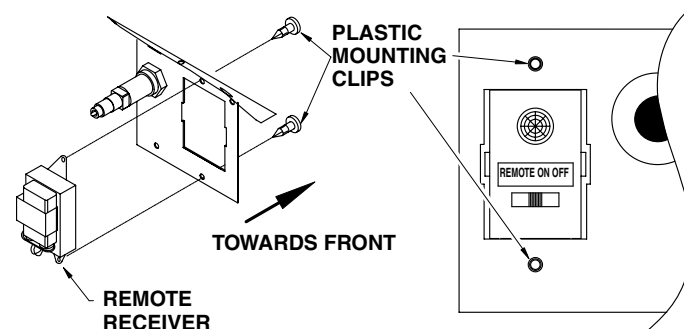

Figure 18 - Mounting Remote Receiver to Bracket
6. Use the clips to mount the receiver on remote mounting bracket, as shown in **Figure 18**.